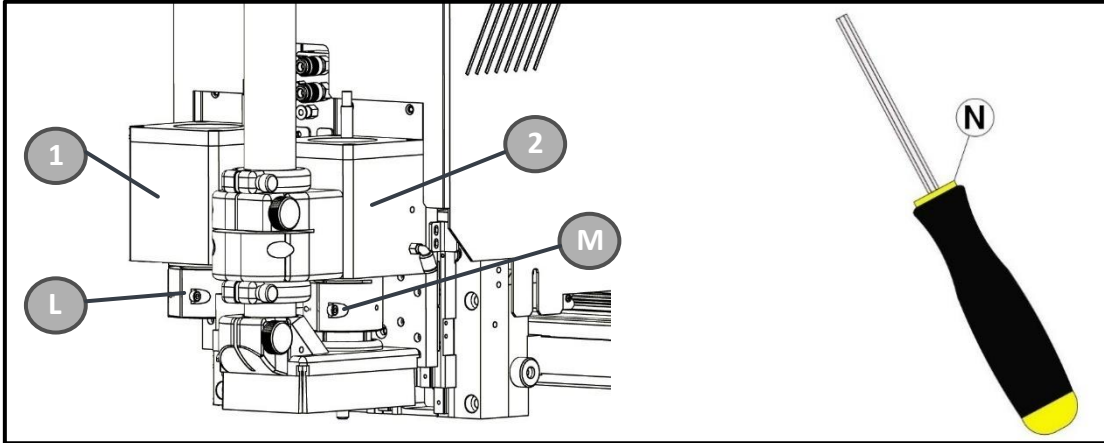

Figure 7-31
Once inserted, tighten the previously mentioned socket head screws (L and M) (Figure 7-31)
- Assemble the tool with the blade and lock the set screw that hold the tool. Figure 7-31.